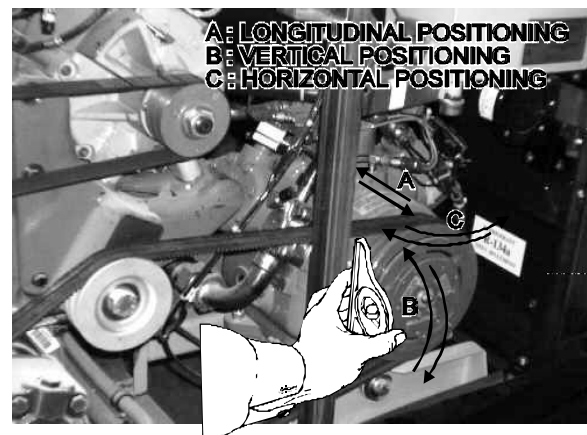

FIGURE 20: COMPRESSOR ALIGNMENT
1. Rest an extremity of a straight edge of approximately 46 inches (117 cm) against the upper part of the outer face of crankshaft pulley, positioning the other end close to the compressor clutch pulley (Fig. 20 and 21).
Rest a short "angle and level indicator" on the outer side face of the crankshaft pulley, adjust the level indicator inclination at 0° and check if the compressor pulley is at same angle (Fig. 20 & 21). If it is not the same, shim under the appropriate pillow block in order to obtain a correct angle.